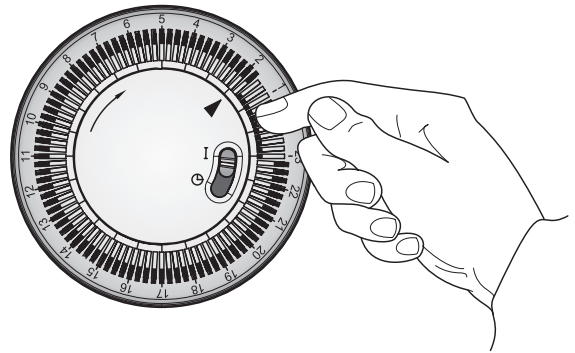

Fig. 6
Set the operation mode using the slide switch on the timer - see Fig. 6:
1. Using your finger tip or the tip of a pencil, push in as many segments as necessary around the dial, according to the times you don't require heat - see Fig. 6. Each segment pushed in switches the heater OFF for that part of the hour. All other segments will be ON. For example, Fig. 6 shows the timer set to switch the heater OFF between 11pm and 1.45am